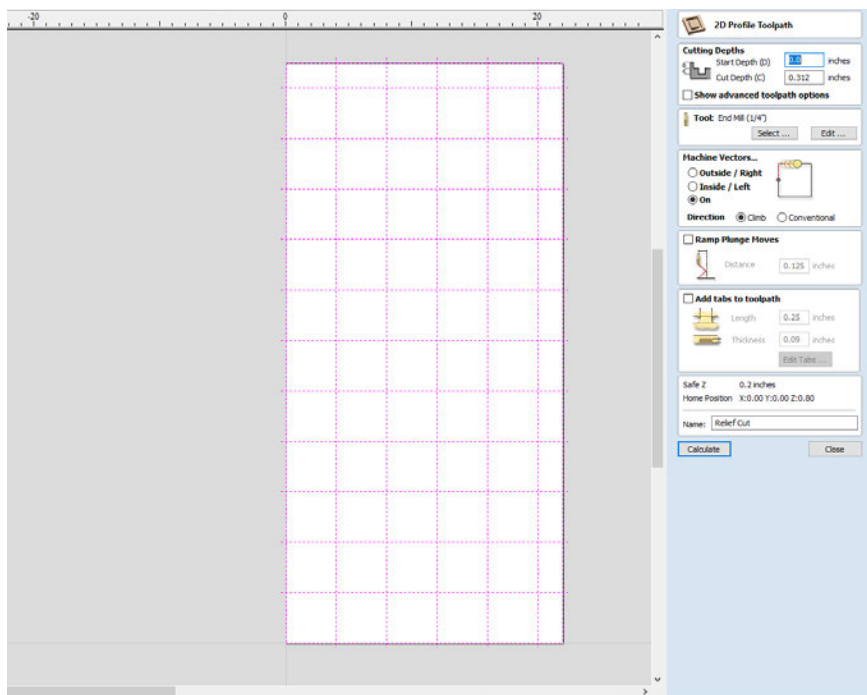

Fig 13b - Spoilboard CAM
- 13.3. Program a 5/16" (8mm) deep cut centered on the spoilboard rectangle line using the MATCHFIT Relief Bit or any suitable 1/4" (7mm) bit. (Fig 13b)